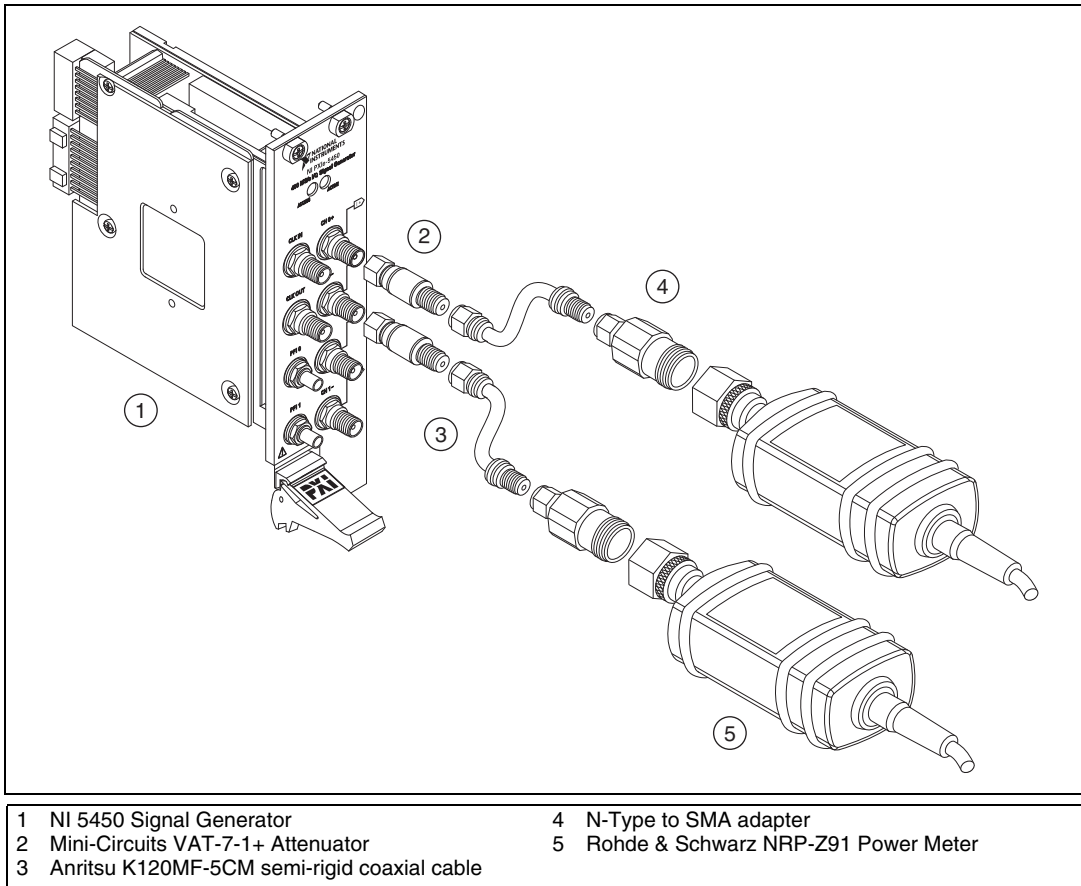

Figure 8. NI 5450 Connection to Power Meters Using Attenuators (CH 0)
1. Connect the devices as shown in Figure 8, using semi-rigid coaxial cables to connect the power meters simultaneously if needed.